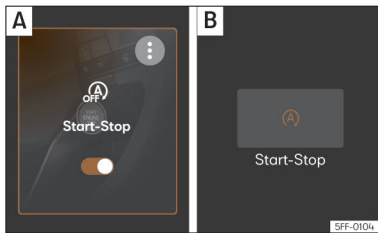

Fig. 121 On the infotainment system display: Start-Stop system on. [A] View in the main menu. [B] View with the Infotainment system off.
When the symbol (A) appears in orange >>> **Fig. 121** the system is on and will stop and start. When the symbol (A) appears in white the system is off.